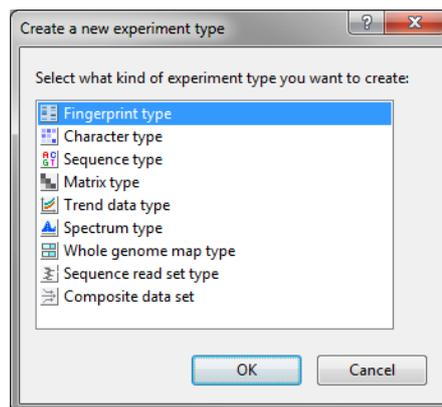

Figure 2: The *Create a new experiment type* dialog box.
2. In the *Main* window, click on  in the toolbar of the *Experiment types* panel and select **Trend data type** from the list (see Figure 2).